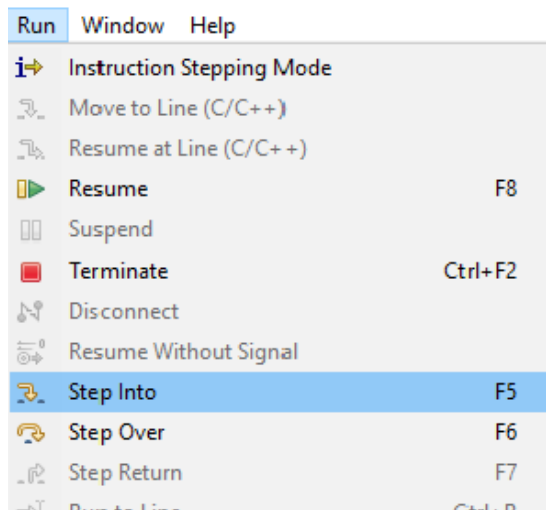

Figure 3-7 Step In & Step Over
2. **Step Into & Step Over** the function call as shown in Figure 3-7.